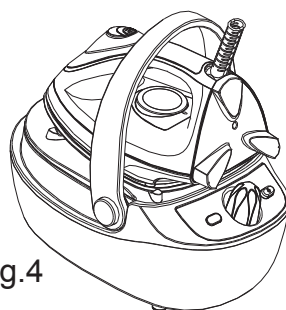

Fig.4
- Power switch on control panel can control circuit for complete unit. [Fig.4]